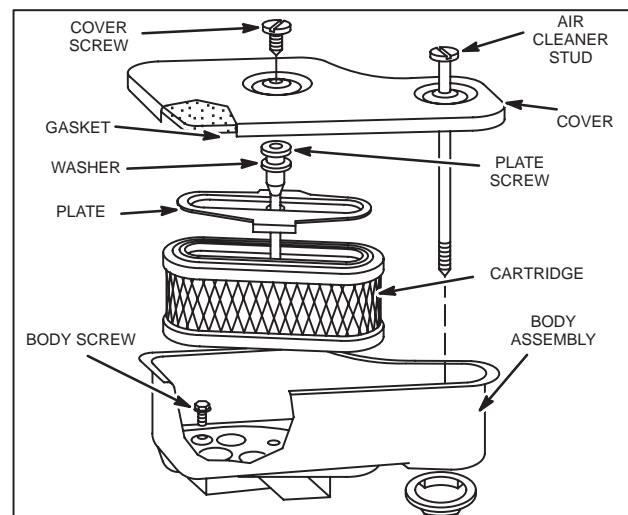

Fig. 117 – REVERSE FLOW CARTRIDGE AIR CLEANER, VERTICAL CRANKSHAFT
1. Re-assemble air cleaner as shown in Fig. 117.